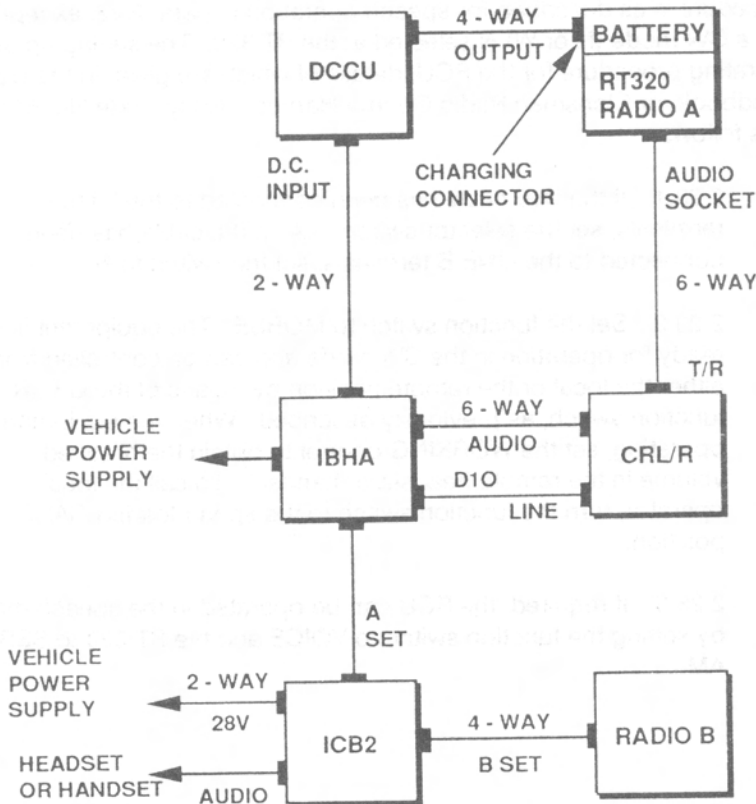

Fig.16 Local Rebroadcast Interconnections
REBROADCASTING (Fig.16)
2.24 The PRC 320 can be operated as a manual rebroadcast station in conjunction with a control, radio set, local/remote (CRL/R), an interconnecting box, harness adaptor (IBHA) and an interconnecting box, 2 radio (ICB2). Interconnections between the units are shown in block diagram form in Fig.16, but reference should be made to the User Handbook for Clansman Radio Control Harness, Army Code No. 61172.